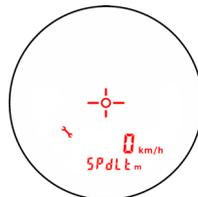

Figure 35
1. Press the  button until the Speed Limit Edit Screen is displayed. It should look similar to Figure 35. The current value of the local speed limit appears in the upper display. In this example the local speed limit is 0 km/h.